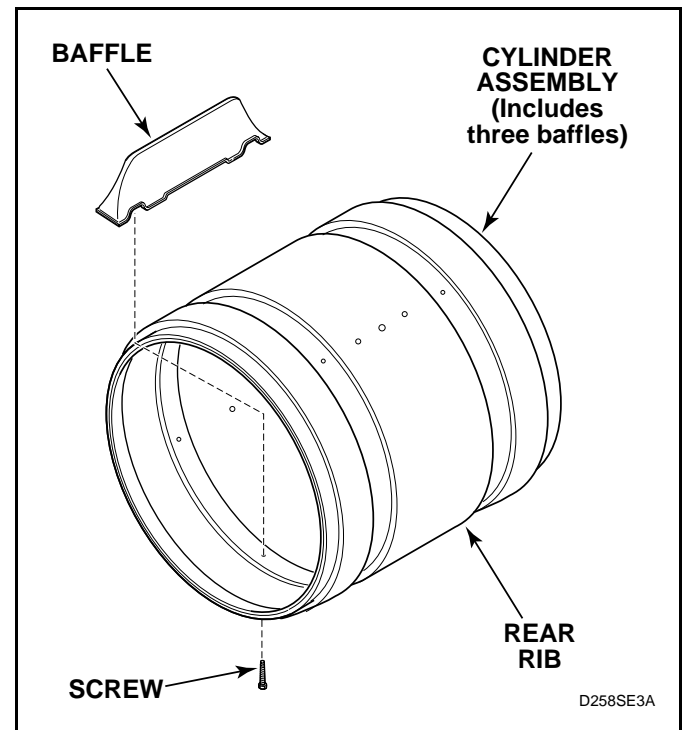

Figure 50
**NOTE:** When reinstalling belt, be sure belt is properly installed on motor and idler pulleys, and is on the correct side of the idler lever. See *Figure 41*. Belt must be positioned around center section of cylinder approximately three inches ahead of rear rib on cylinder. See *Figure 50*. After installing belt, manually rotate cylinder counterclockwise to check that belt is properly aligned.
**NOTE:** When reinstalling belt, be sure belt is properly installed on motor and idler pulleys, and is on the correct side of the idler lever. See *Figure 41*. Belt must be positioned around center section of cylinder approximately three inches ahead of rear rib on cylinder, with the ribbed surface of the belt against the cylinder. See *Figure 50*. After installing belt, manually rotate cylinder counterclockwise to check that belt is properly aligned.
- i. Baffles – Remove screws holding baffles to cylinder. See *Figure 50*.
**NOTE:** When reinstalling belt, be sure belt is properly installed on motor and idler pulleys and is on the correct side of the idler pulleys. See *Figure 41*. Belt must be positioned around center section of cylinder approximately three inches ahead of rear rib on cylinder with the ribbed surface of the belt against cylinder. See *Figure 50*. After installing belt, manually rotate cylinder counterclockwise to check that belt is properly aligned.
**NOTE: When reinstalling belt, be sure belt is properly installed on motor and idler pulleys and is on the correct side of the idler pulleys. See *Figure 41*. Belt must be positioned around cylinder approximately three inches ahead of rear rib on cylinder with the ribbed surface of the belt against the cylinder. See *Figure 50*. After installing belt, manually rotate cylinder counterclockwise to check that belt is properly aligned.**